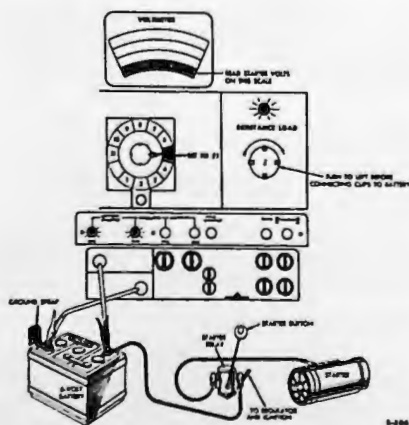

Fig. 1—Checking Voltage Drop at Battery, Using Diagnosis Test Set
(5) **TEST FOR OPEN CIRCUIT IN STARTING MOTOR.** Make the necessary adjustments on the diagnosis test set as shown in fig. 1. Connect the test set battery leads across the battery terminals (fig. 1). Press the starter button, and observe the voltage reading. If the voltage drop is less than one volt, an open circuit exists in the starting motor. Remove and repair or replace the starting motor. If the voltage reading at the battery drops more than one volt when the starter button is pressed, proceed as follows: